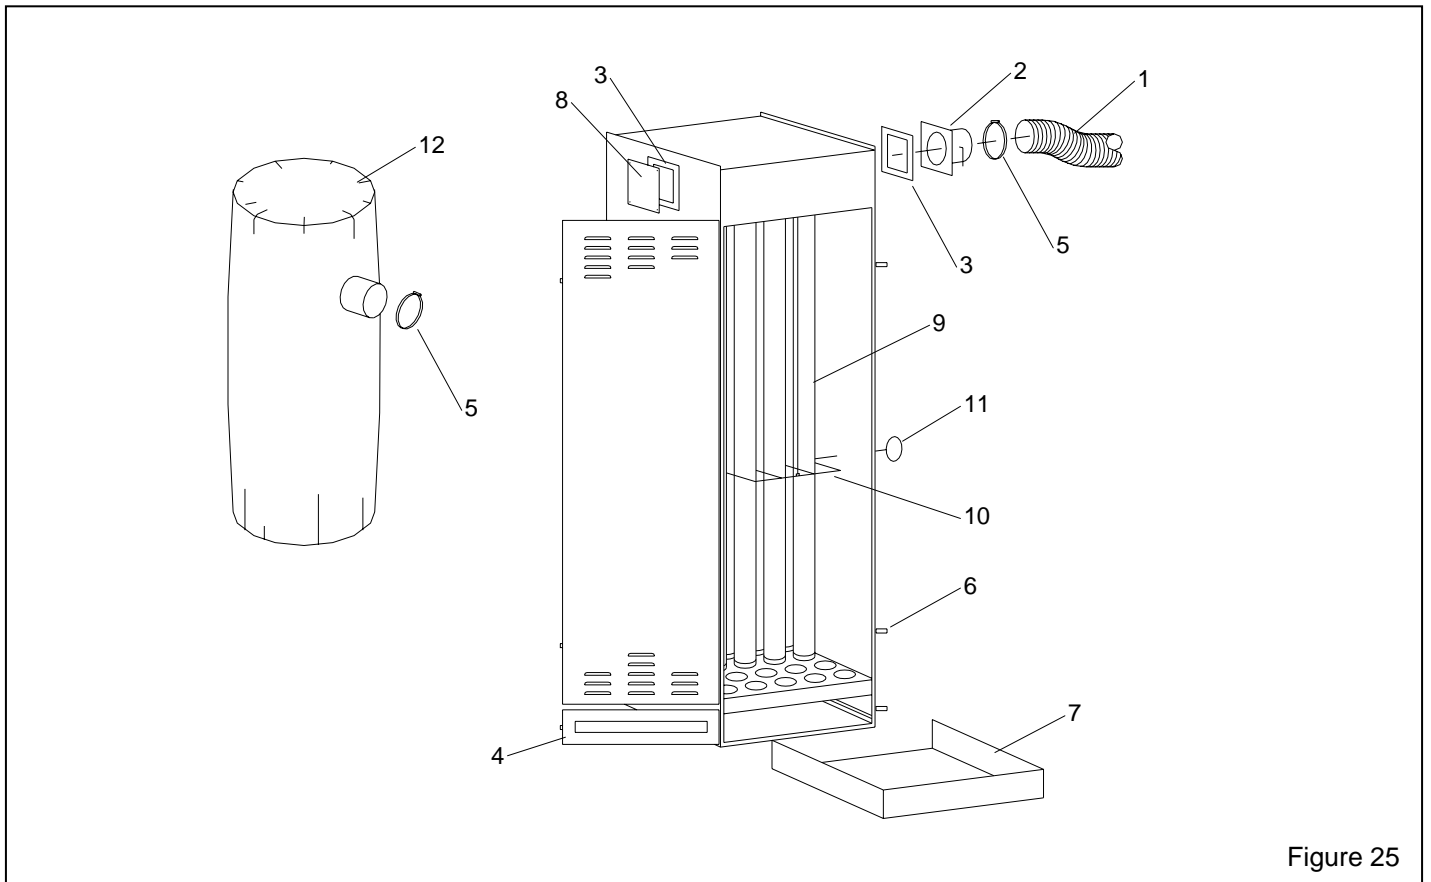

Figure 25
9.9 Dry Filter Dust Collector and Dust Bags, Figure 25